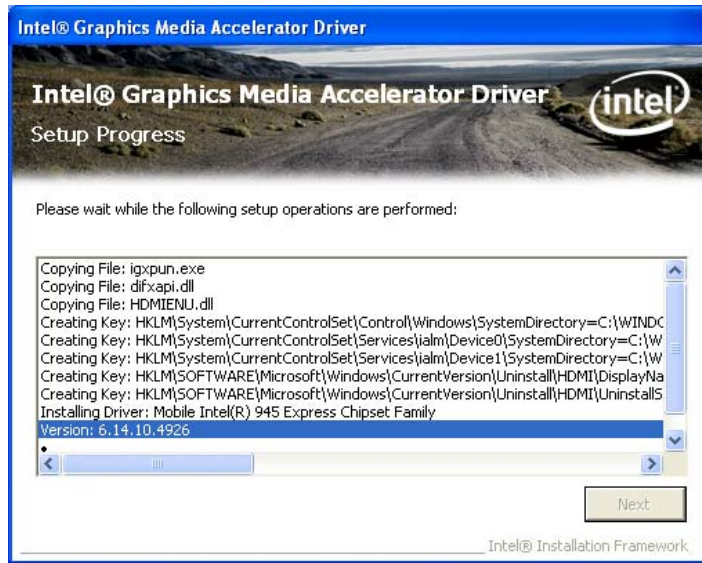

Figure 6-13: VGA Driver Setup Operations
Step 12: Setup Operations are performed as shown in Figure 6-13.